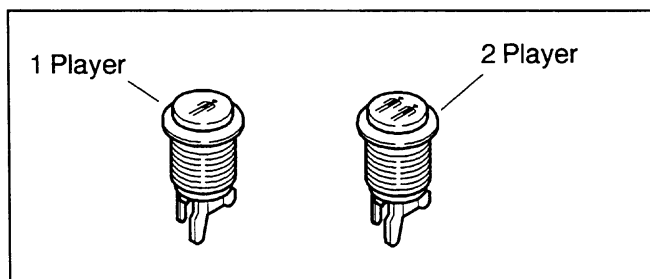

FIGURE 3
16. Notice that there are two white buttons. (See Figure 3.) Install the PLAYER ONE button on the top left-hand side of the control panel, and the PLAYER TWO button on the top right-hand side of the control panel. The WHITE buttons are START buttons.